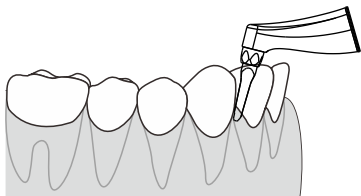

Figure 10 Periodontal sandblasting operation
4. When using the device to perform normal periodontal scaling, it is recommended to use the nozzle to remove the plaque from the periodontal pocket of 1~3mm below the gingival, and perform up and down lifting and scaling during use. (See Figure 10)